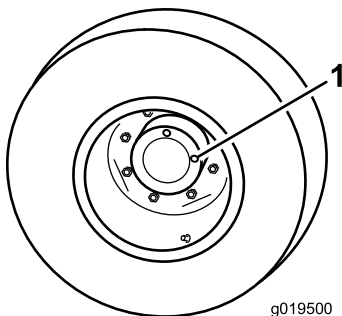

Figure 60
1. With machine on level surface, position the wheel so 1 check plug is at the 12 o'clock position and the other is at 3 o'clock position (Figure 60).
1. Check/drain plug (2)
2. Remove the plug at the 3 o'clock position (Figure 60).